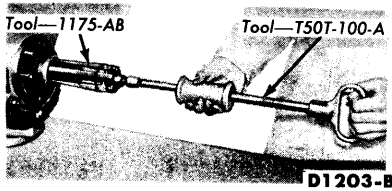

FIG. 38—Front Pump Seal Removal
6. Install the oil seal remover shown in Fig. 38. Then pull the front seal from the pump body.